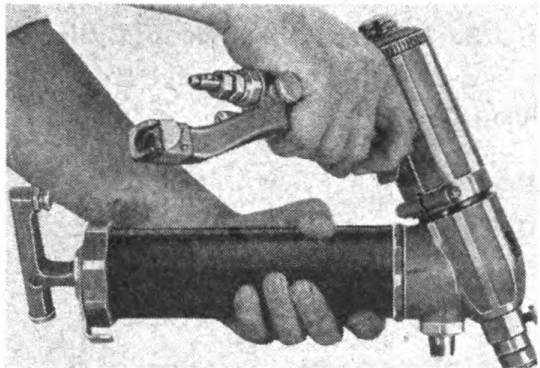

Figure 73
d. Attach air motor to gun head (See Figure 73) by inserting in head and turning to right.